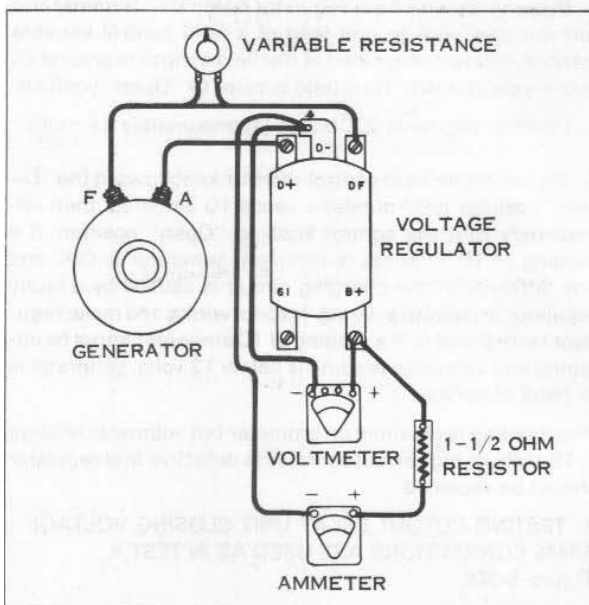

Figure 5-31.
C. TESTING VOLTAGE CONTROL UNIT SETTING (Figure 5-31)
Testing Voltage Setting Under Load (Figure 5-31)